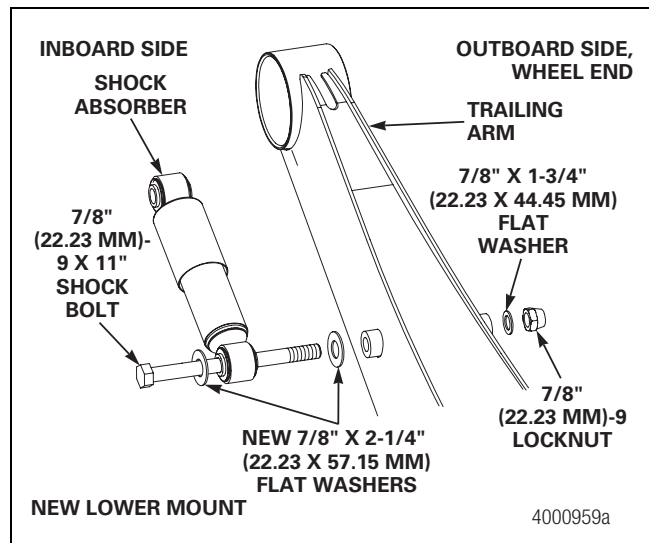

Figure 9.30
7. Install the new 7/8-inch x 2-1/4-inch O.D. (22.23 x 57.15 mm) washer between the bolt head and shock absorber. Install a new, larger washer between the shock absorber and the shock tube. Figure 9.30.
7. Install the new 7/8-inch x 2-1/4-inch O.D. (2.23 x 57.15 mm) washer onto the lower shock absorber bolt. Install the shock absorber, then the larger washer between the shock absorber and shock tube. Install the washer and locknut. Hand-tighten the nut. Figure 9.30.